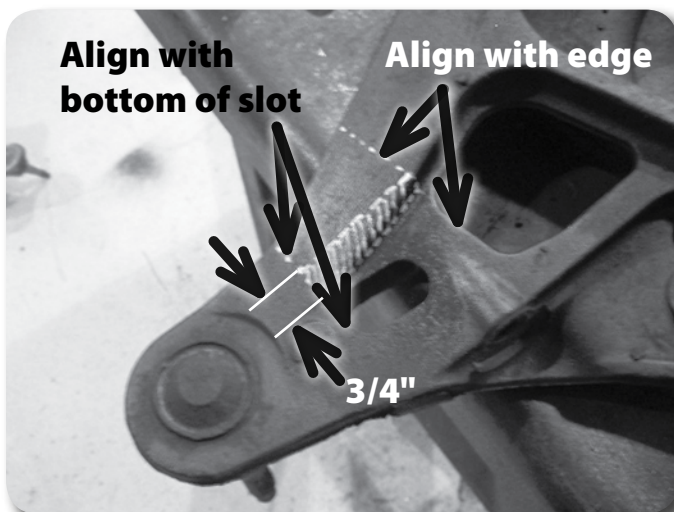

Figure 27A
44. Mark the lower control arms as shown. This area must be removed from the control arm for proper CV boot clearance. The area to be removed is wedge shaped. Draw a triangle to connect the points, and remove material with a grinder. Coat with paint after material is removed **Figures 27A, B.**